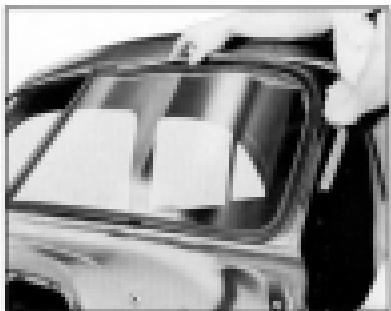

Fig. 22. Installing Upper Revealed Molding
- (a) From inside the body, pull the string about three-quarters across the bottom of the windshield opening, starting from the lower inner corner of the opening. (See Fig. 22)